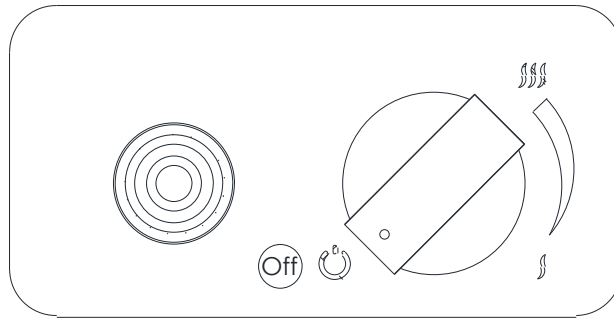

Fig 14 – Turning off the device
- To turn off the device, simultaneously press and turn the knob all the way clockwise (Fig 14). The gas supply will be cut and the flame on burner will be turned off.